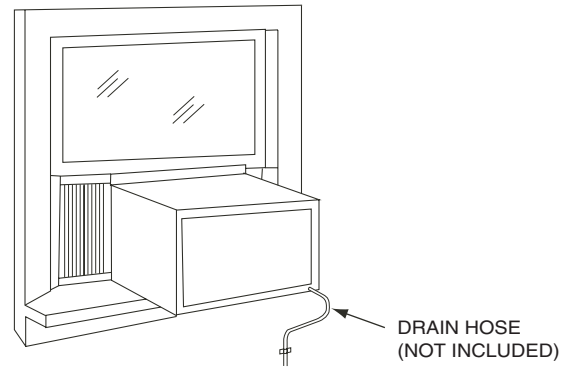

FIGURE 18 — FIELD-SUPPLIED DRAIN HOSE
23. The unit was designed to evaporate condensation under normal conditions. Under extreme humidity conditions, excess condensation may cause the basepan to overflow to the outside of the unit. A field-supplied drain hose may be installed at the drain plug if required to route condensate away from the unit. See Fig. 18.